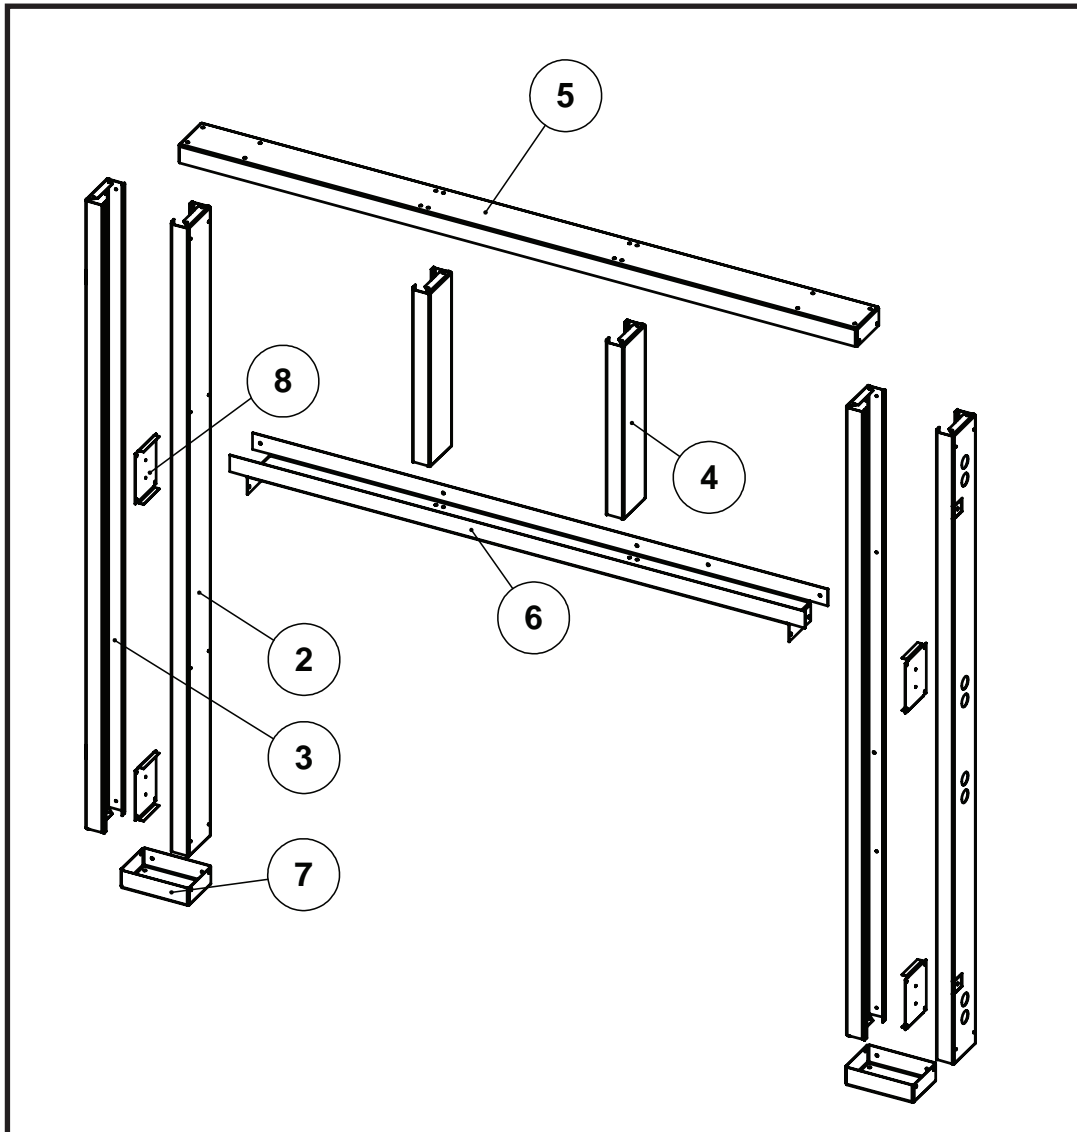

Figure 14: TC36ST Steel frame parts.
1. Top Frame Assembly (Figure 14)